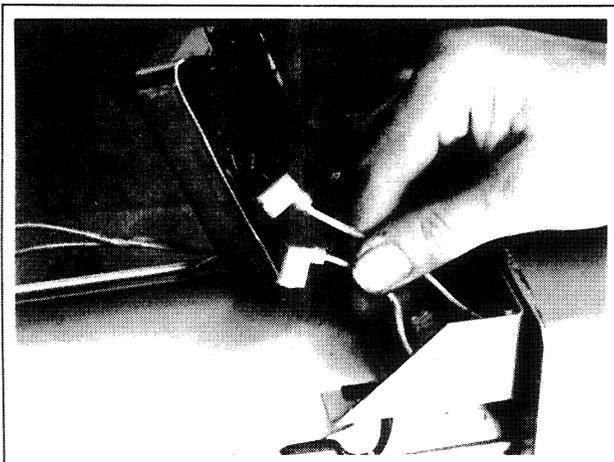

Figure 2-5. Disconnecting Regulator Leads
2. Unscrew voltage regulator and disconnect all leads. Figure 2-5. Unscrew power panel and disconnect all leads.